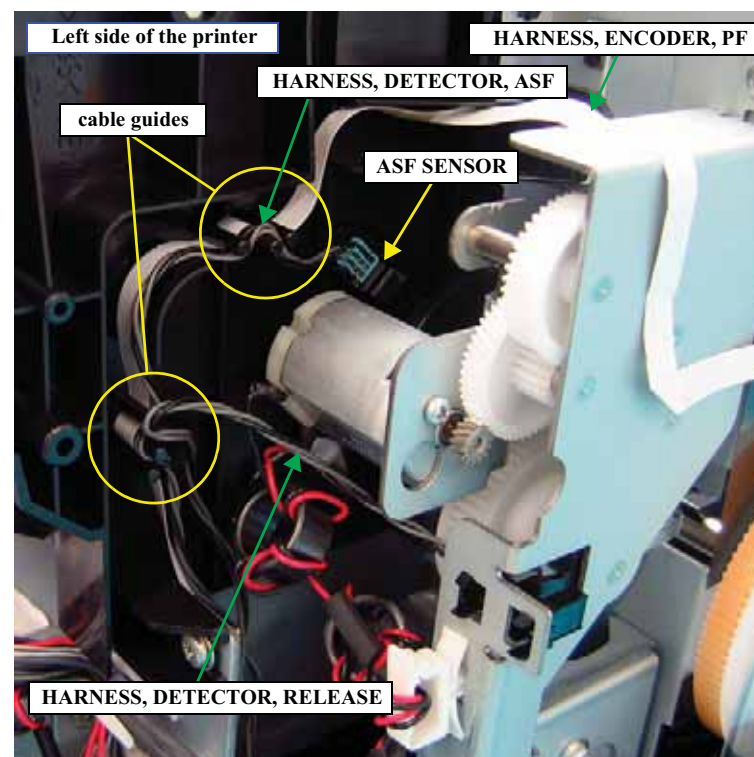

Figure 4-123. Releasing the FFC and cables
6. Release the FFC and cables listed below from the cable guides on the ASF, ASSY. *See Figure 4-123.*